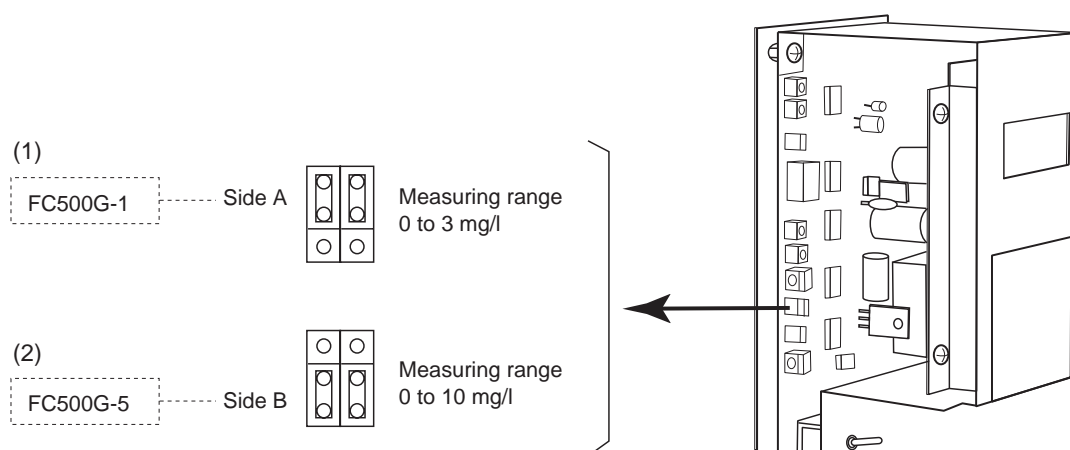

Figure 4.7 “Measuring Range” Selection Jumper
If the FC500G-1 free available chlorine analyzer is used, confirm that the “measuring range” selection jumper is set as shown in Figure 4.7 (1).
For the FC500G-5 free available chlorine analyzer, confirm that the jumper is set as shown in Figure 4.7 (2).